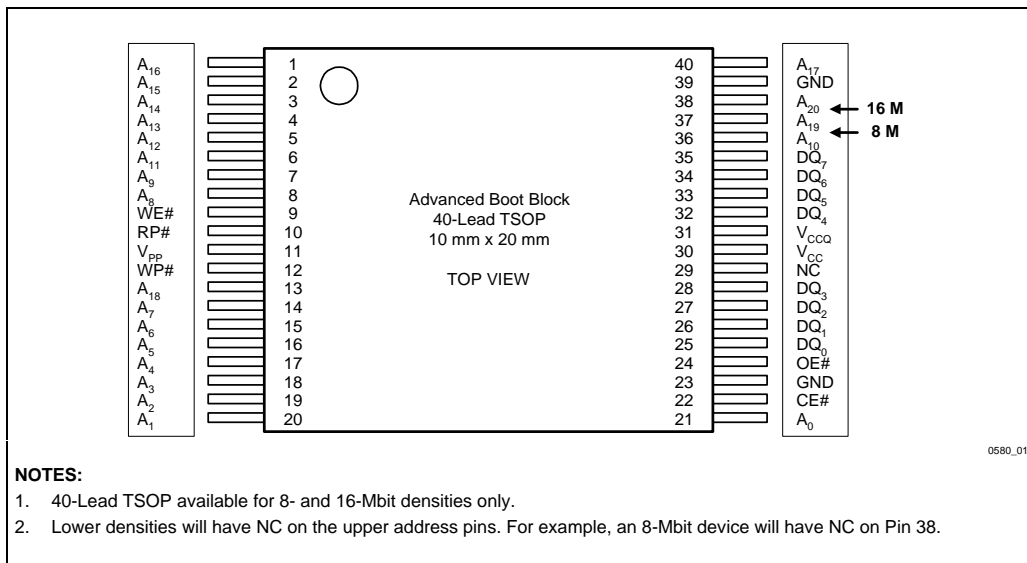
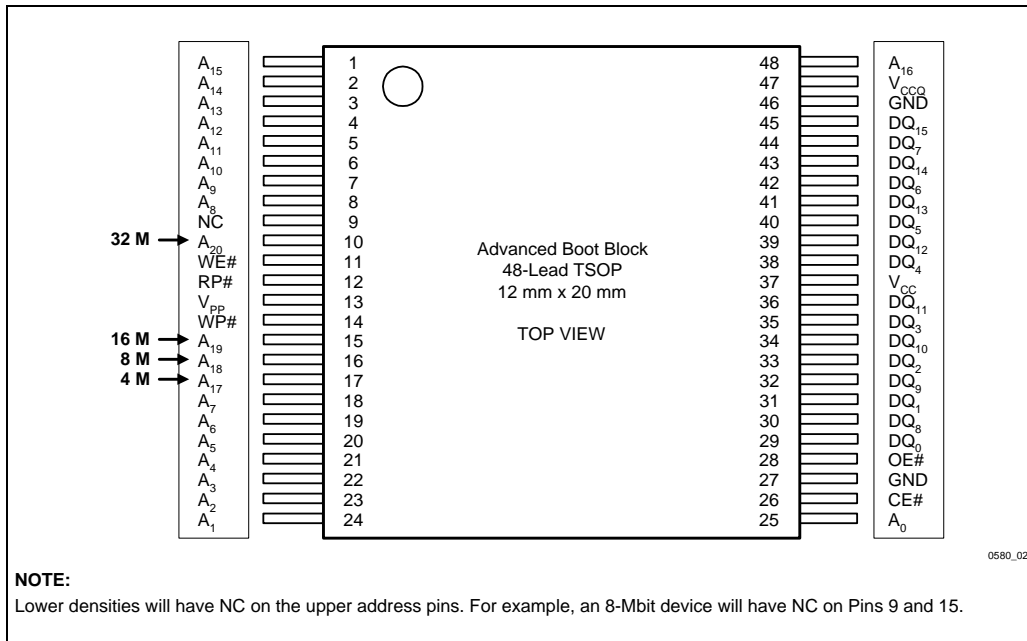
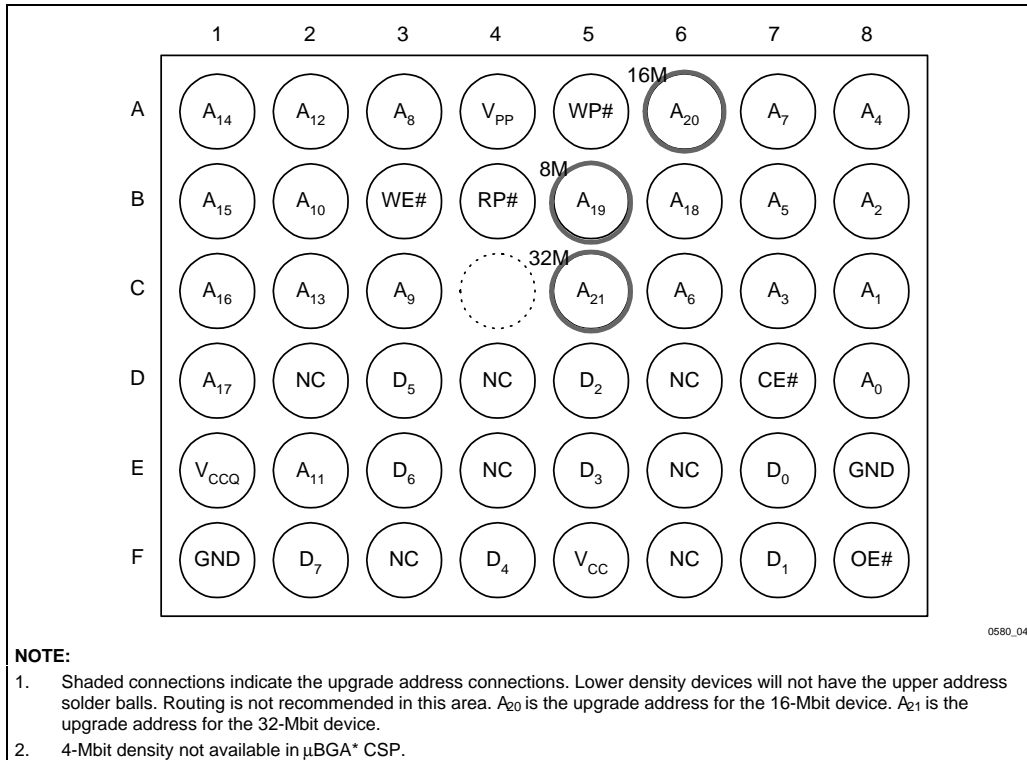
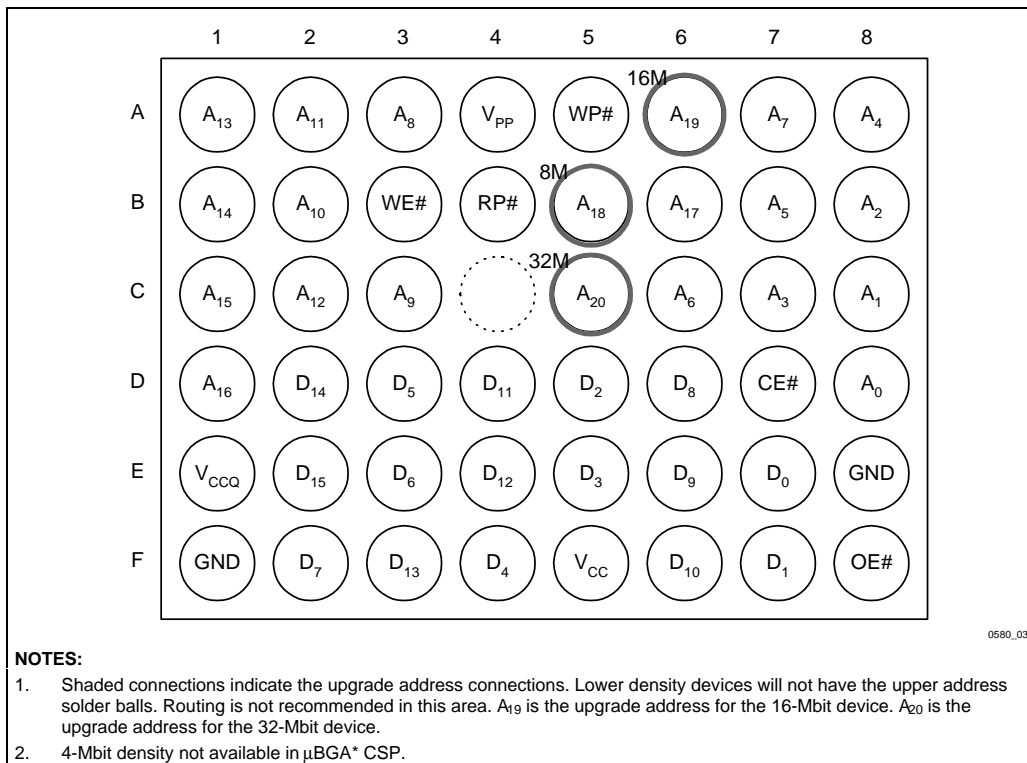

Figure 1. 40-Lead TSOP Package for x8 Configurations
Figure 2. 48-Lead TSOP Package for x16 Configurations
Figure 3. x8 48-Ball μBGA\* Chip Size Package (Top View, Ball Down)
Figure 4. x16 48-Ball μBGA\* Chip Size Package (Top View, Ball Down)
-005	<p>μBGA package diagrams corrected (Figures 3 and 4)</p> <p>IPPD test conditions corrected (Section 4.4)</p> <p>32-Mbit ordering information corrected (Section 6)</p> <p>μBGA package top side mark information added (Section 6)</p>
- VCCQ input of 1.65 V–2.5 V on all I/Os. See Figures 1 through 4 for pinout diagrams and VCCQ location
The Smart 3 Advanced Boot Block flash memory is available in 40-lead TSOP (x8, Figure 1), 48-lead TSOP (x16, Figure 2) and 48-ball  $\mu$ BGA packages (x8 and x16, Figure 3 and Figure 4 respectively). In all figures, pin changes necessary for density upgrades have been circled.